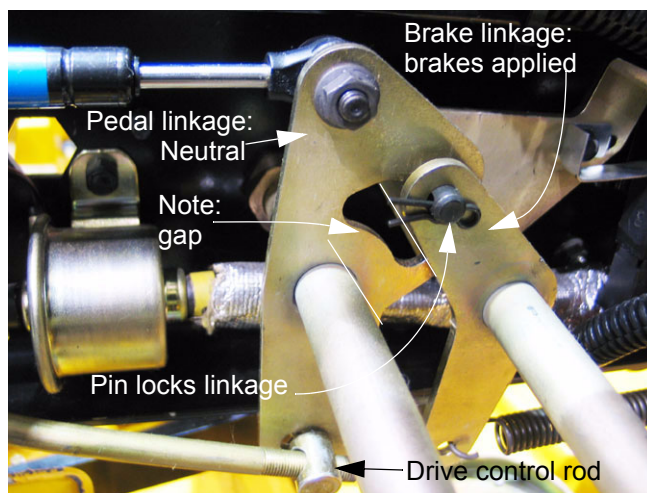

Figure 3.5
- 3.5. If the brake and drive pedals “fight” with each other, the drive control rod is out of adjustment. See Figure 3.5.